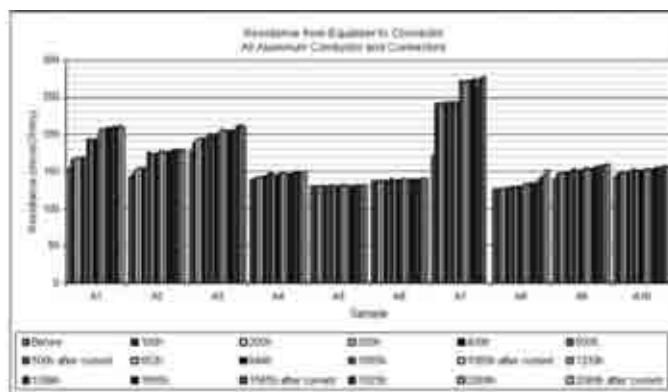
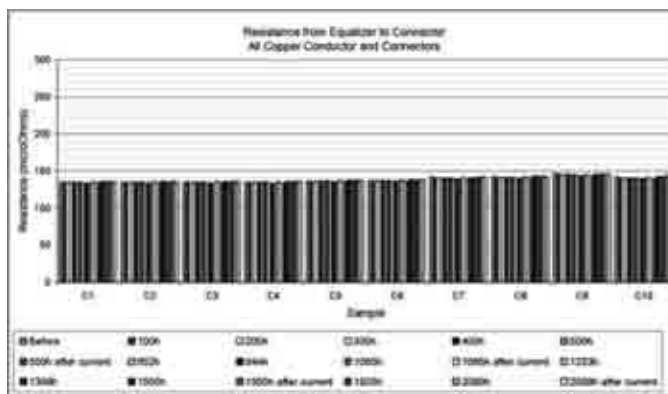

Figure 3. Resistance measurements for all-aluminum connections (Group A).
Figure 5. Resistance measurements for all-copper connections (Group C).
1) Raw Test Data: Bar charts showing all of the measured resistances during the testing are shown in Fig. 3 through Fig. 5. The resistance values are displayed in chronological order from left to right, so that the left-most bar is the reading before testing, and the right-most bar is the reading after 2000 hours of environmental exposure and final current burst testing.